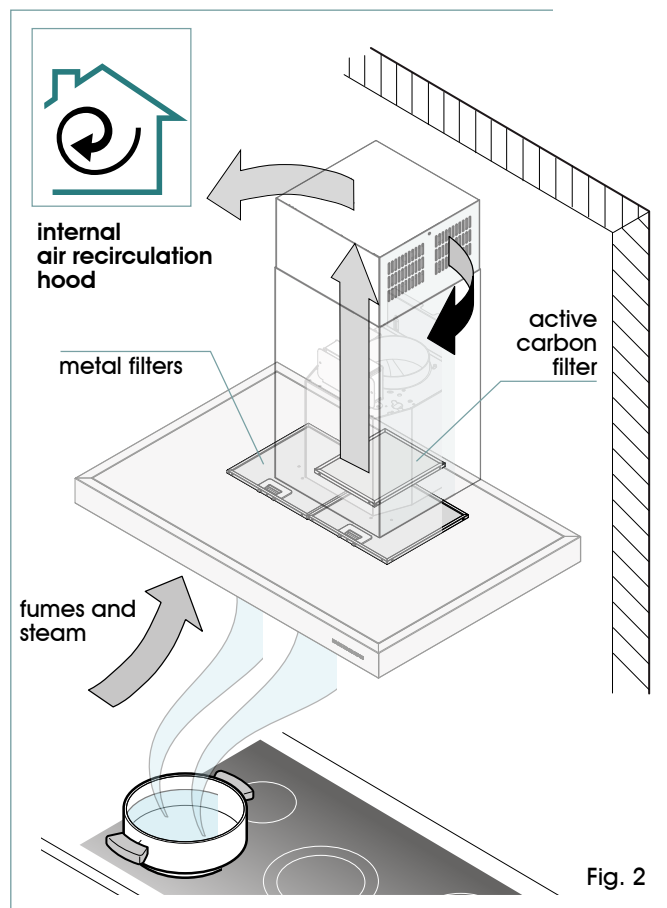

Fig. 2
are funneled through one or more carbon filters (usually one or two) to be purified: the clean air is then blown into the room thanks to the grid holes placed on the top of the hood's chimney (filtering or internal recirculation cooker hood - **Fig. 2**).
- **active carbon filter:** this is only found in internal air recirculation models (**Fig. 2**), and must be removed and replaced approximately every 3-4 months, depending on use.